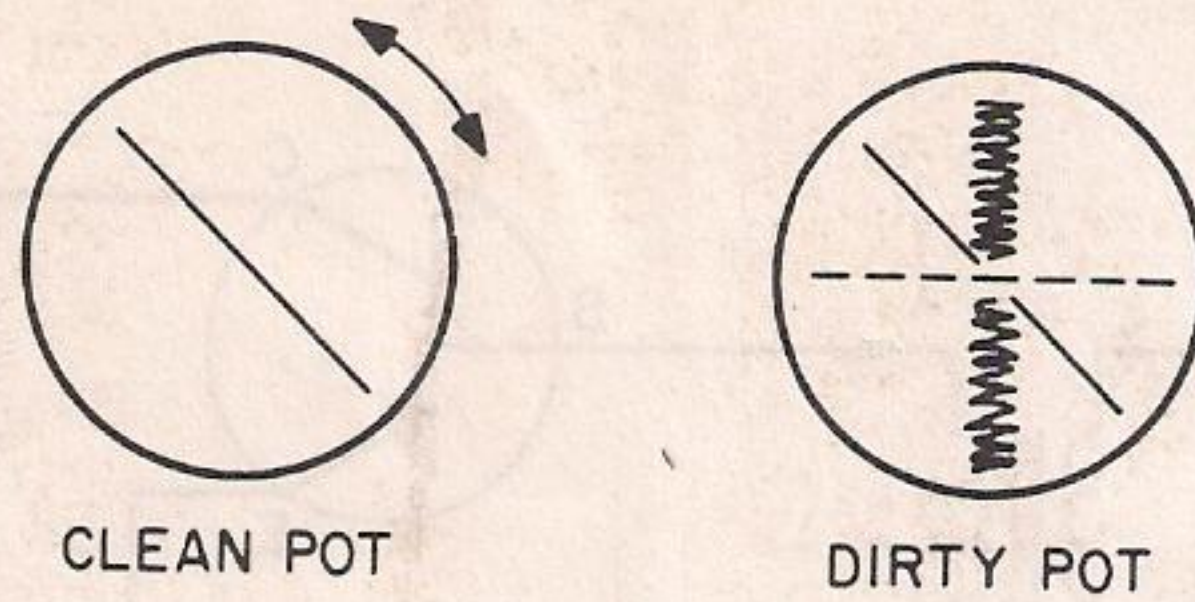

Figure 9. Potentiometer Noise Check
g. Potentiometer Noise Check. (See figure 9.) To check a potentiometer for noise or dirt, connect one probe to the potentiometer arm and the other probe to either end, then manipulate the potentiometer through its range while observing the oscilloscope pattern.